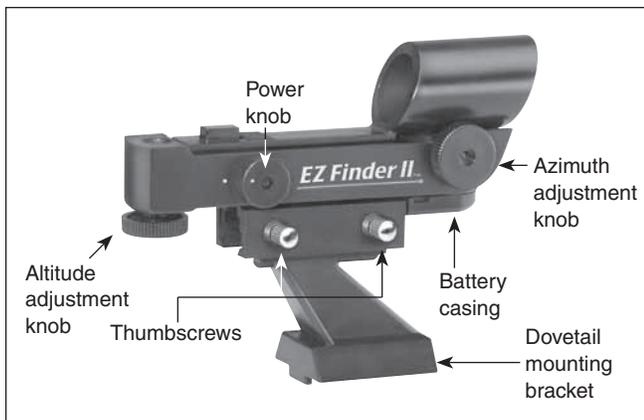

Figure 20. The EZ Finder II reflex sight.
1. Insert a small, flat-blade screwdriver into the notch in the battery casing and gently pry it off (**Figure 20**).
The EZ Finder II works by projecting a tiny red dot (it is not a laser beam) onto a lens mounted in the front of the unit. When you look through the EZ Finder II, the red dot will appear to float in space, helping you to pinpoint your target object. The red dot is produced by a light-emitting diode (LED) near the rear of the sight. Turn the power knob (see Figure 20) clockwise until you hear the “click” indicating that power has been turned on. Look through the back of the reflex sight with both eyes open to see the red dot. Position your eye at a comfortable distance from the back of the sight. In daylight you may need to cover the front of the sight with your hand to be able to see the dot, which is purposefully quite dim. The intensity of the dot is adjusted by turning the power knob. For best results when stargazing, use the dimmest possible setting that allows you to see the dot without difficulty. Typically a dimmer setting is used under dark skies and a brighter setting is needed under light-polluted skies or in daylight.
When the EZ Finder II is properly aligned with the telescope, an object that is centered on the EZ Finder II’s red dot should also appear in the center of the field of view of the telescope’s eyepiece. Alignment of the EZ Finder II is easiest during daylight, before observing at night. Aim the telescope at a distant object such as a telephone pole or roof chimney and center it in the telescope’s eyepiece. The object should be at least 1/4 mile away. Now, with the EZ Finder II turned on, look through the EZ Finder II. The object should appear in the field of view. Without moving the main telescope, use the EZ Finder II’s azimuth (left/right) and altitude (up/down) adjustment knobs (see Figure 20) to position the red dot on the object in the eyepiece. When the red dot is centered on the distant object, check to make sure that the object is still centered in the telescope’s field of view. If not, re-center it and adjust the EZ